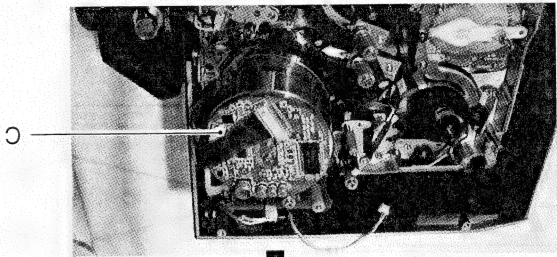

Fig. 2-5-3
1. Remove the connector C. (see Fig. 2-5-3)